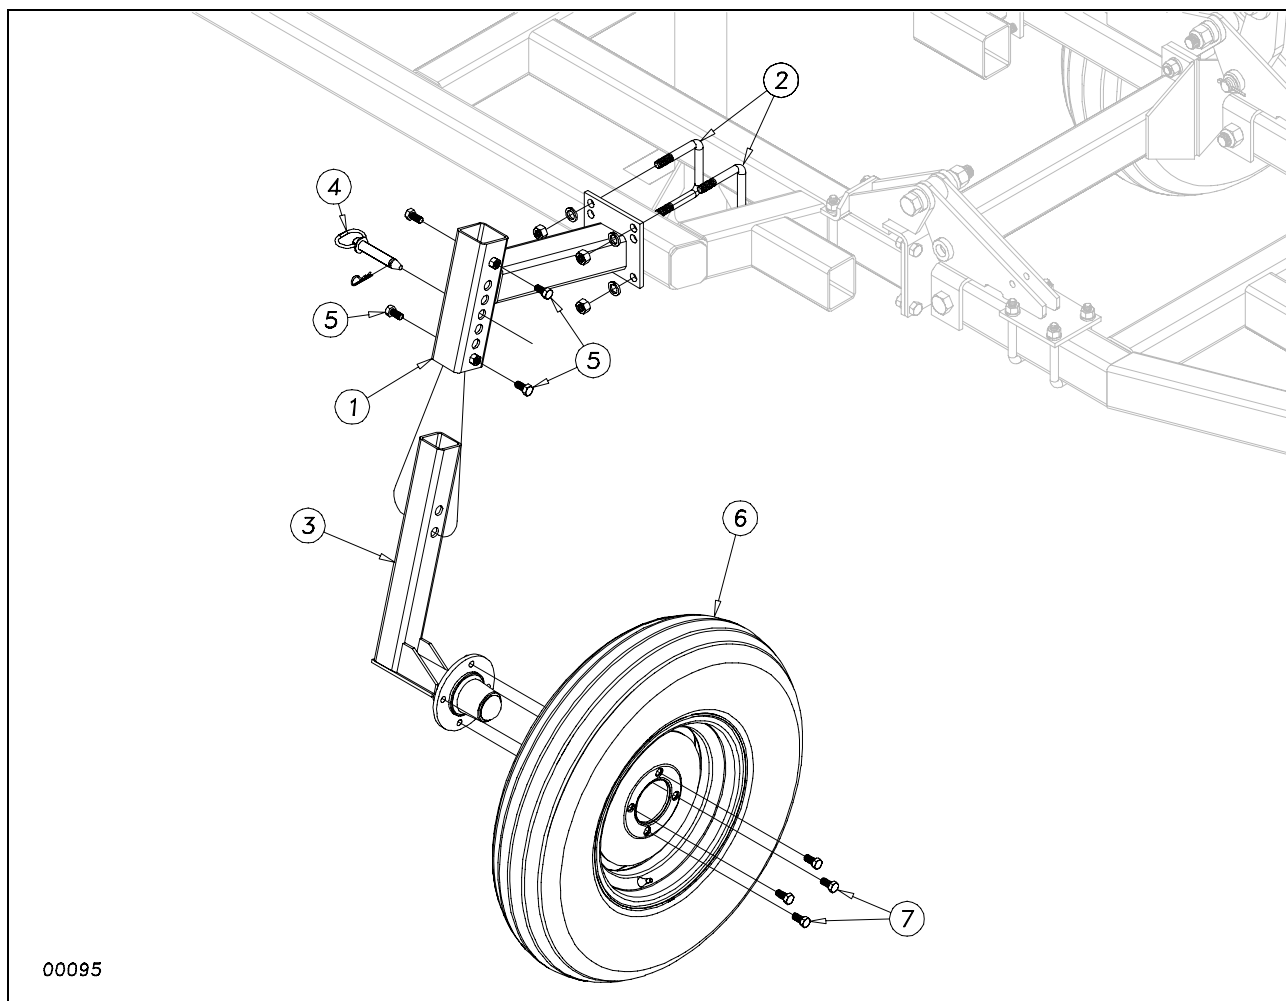

Figure 14
U-bolt the gauge wheel bracket (1) to the front bar of inside wing brace as shown in Figure 14 using the 5/8 x 4 x 4 1/4 u-bolts (2), lock washers and hex nuts. Slide the gauge wheel arm/hub assembly (3) up into the gauge wheel bracket (1) and pin with the 3/4 x 4 1/2